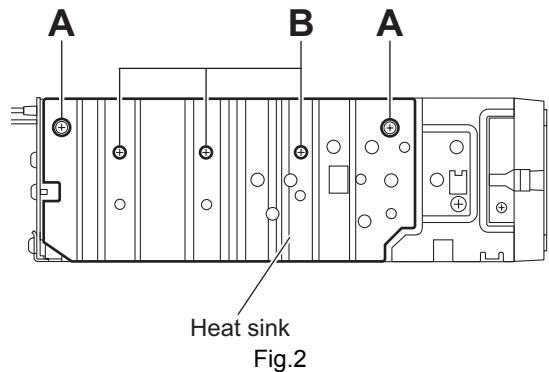

Fig.2
3.1.2 Removing the heat sink (See Fig.2)
(See Fig.2)